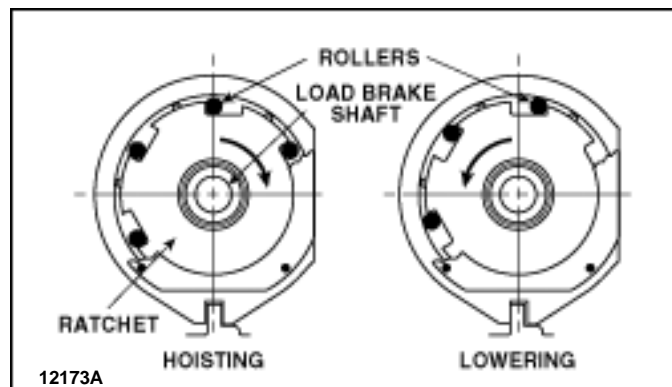

Figure 8-5. Illustration of Roller-Ratchet Brake.
c. Operation. Figure 8-5 shows the action of the roller-ratchet load brake in both hoisting and lowering. The slots cut into the ratchet are sloped in a manner which forms a clearance between the rollers and the retaining plate (outer race) when the ratchet is rotated in the hoisting direction. However, when rotating the ratchet in the lowering direction, the slot